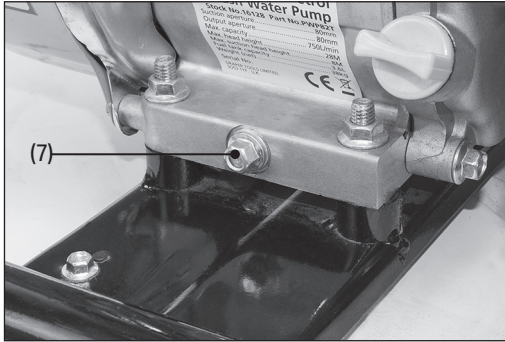

Fig. 16
1. Unscrew and remove the dipstick, followed by the sump bolt (7). Catch the used oil in a suitable container and dispose of it in an approved manner (Fig. 16).